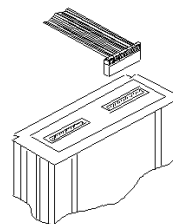

Figure 7: Umbilical Cord
8. Insert test set end of umbilical cord into slot on top of module as shown by label on module. The umbilical cord is inserted with cable toward rear of module as shown in figure 7.